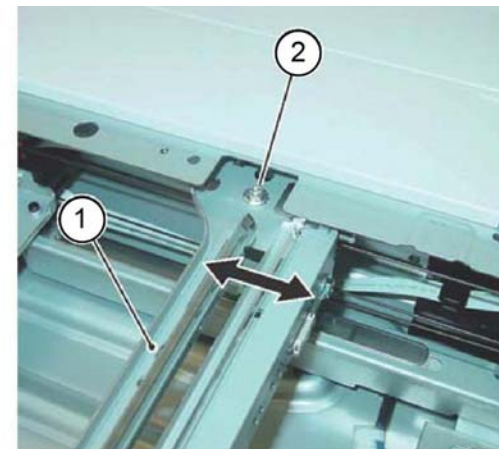

Figure 3 Cable detachment
7. Detach the carriage cable from the full rate carriage, Figure 3:
- a. Move the full rate carriage (1) to the cutout in the frame.
- b. Remove the screw (2).